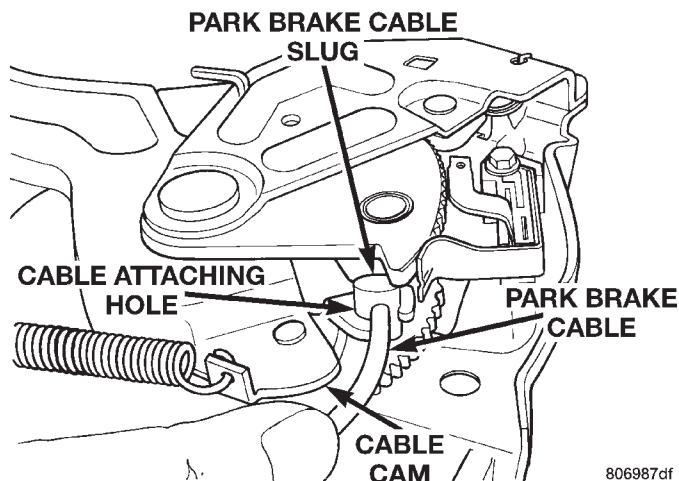

Fig. 103 Cable Removal / Installation
(11) Rotate park brake cable aligning cable with notch in cable attaching hole on park brake pedal mechanism (Fig. 103). Lift park brake cable, out of hole in park brake mechanism. Remove park brake cable from park brake mechanism.
(1) Install park brake cable through hole in park brake pedal mechanism.
(2) Install park brake cable on park brake pedal assembly (Fig. 103). Install park brake cable into cable attaching hole in park brake assembly, and rotate cable into place. Be sure cable is properly seated in the cam surface track of foot lever assembly (Fig. 103).